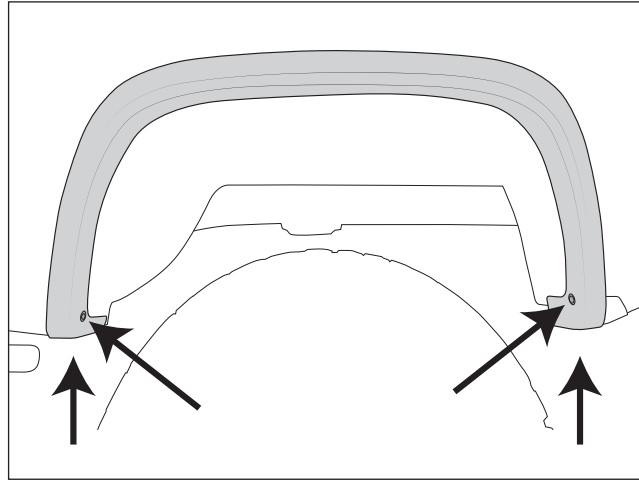

Figure 16
- A. Remove M4 torx bolts from inside lower wheel wells, M4 torx bolt from underneath front side of flare, and Push Pin from underneath rear side (fig. 16).